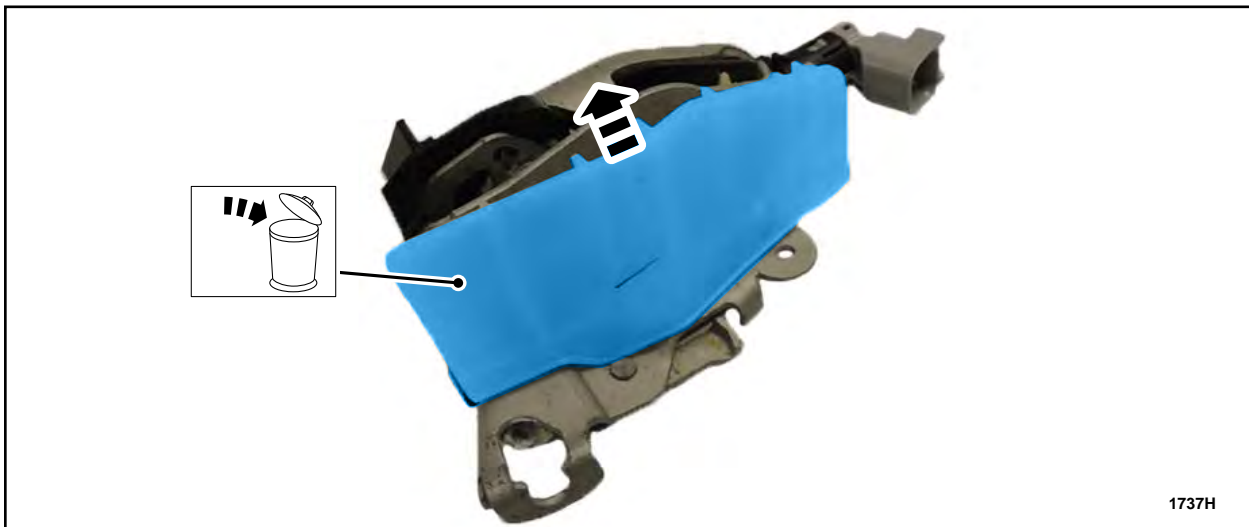

FIGURE 102
NOTE: Some F-150 SuperCab vehicles may be equipped with a smaller water shield than what is being installed in this program. The smaller shields must be removed and replaced. See Figure 102.
6. If equipped with small water shields, remove and discard the existing lower door latch water shields. See Figure 102.